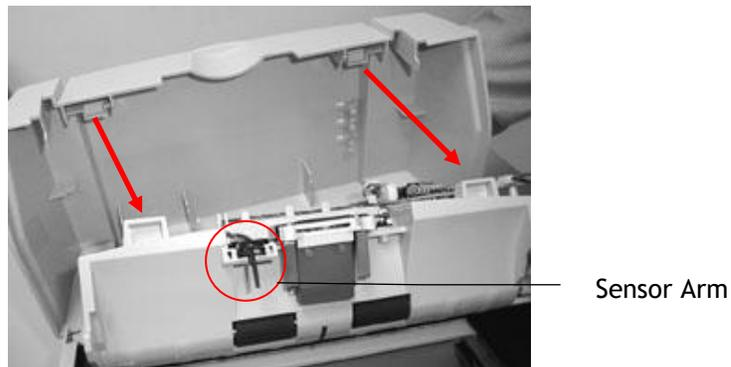

Figure 4.15b Check the photo-sensor's arm after the ADF cover is mounted.
2. Take out the ADF cover and align the two clip-joints on the ADF unit as shown in Figure 4.15b.